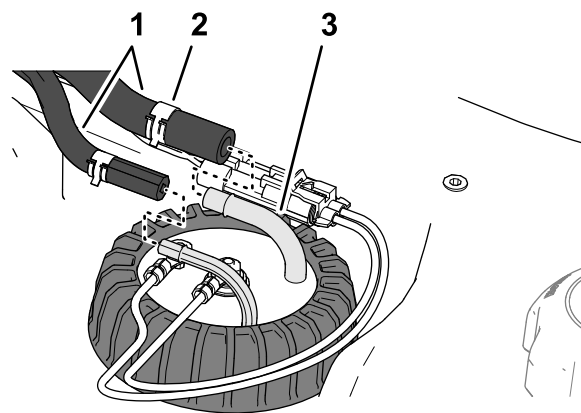

Figure 89
4. Move the clamps that secure the hoses to the fittings of the fuel sender inboard, and remove the hoses from the fittings (Figure 89).